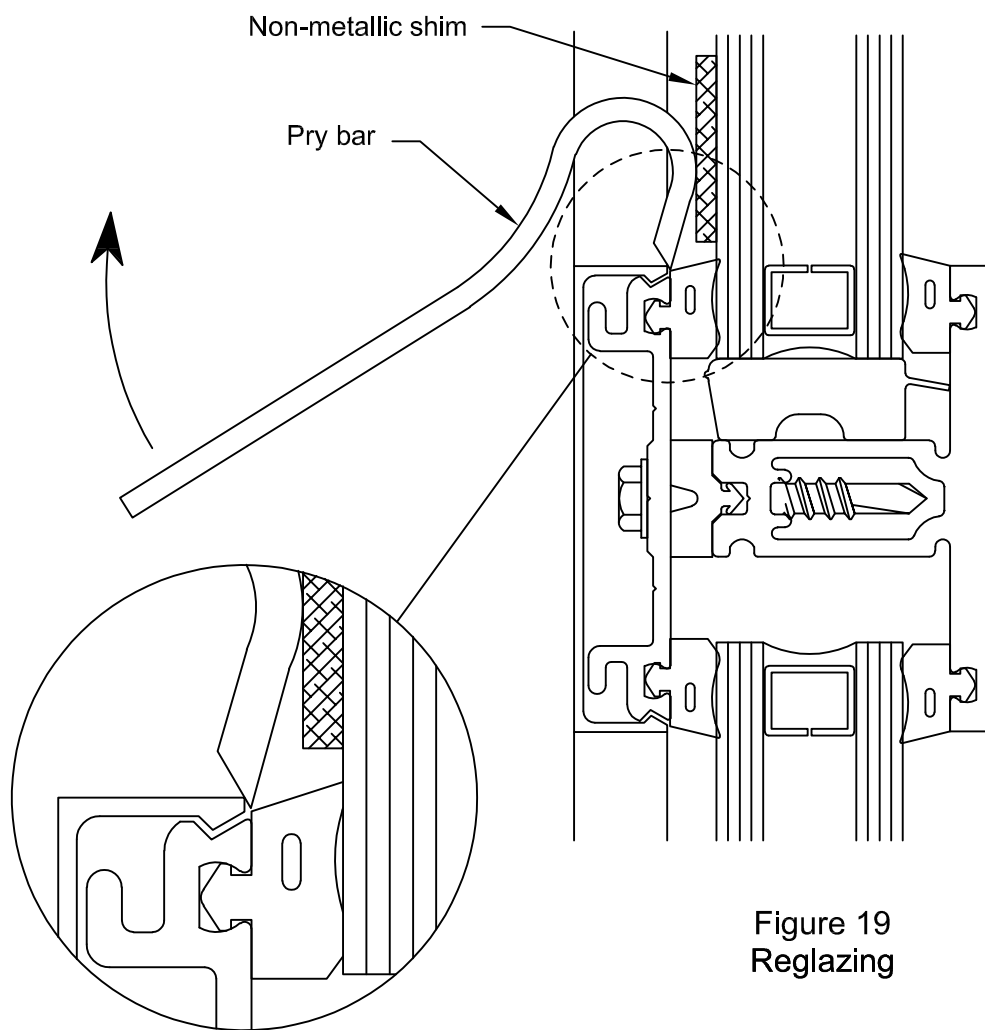

Figure 19
- E.1 Reglazing must be done from the exterior. Carefully remove face covers surrounding the lite of glass to be deglazed. SEE FIGURE 19.